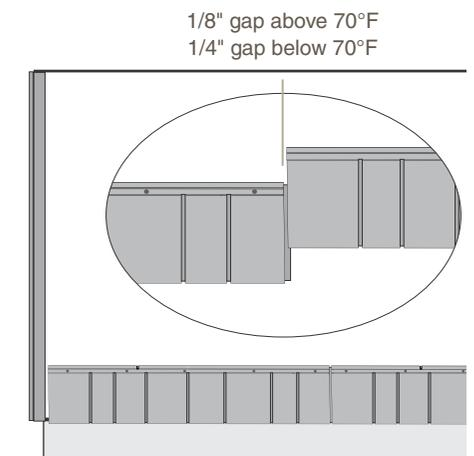

Fig. 14
- Install the remainder of the course overlapping the seams and leaving the necessary space between the shakes. If the temperature is above 70°F, leave 1/8". If the temperature is below 70°F, leave 1/4" (Fig. 14).